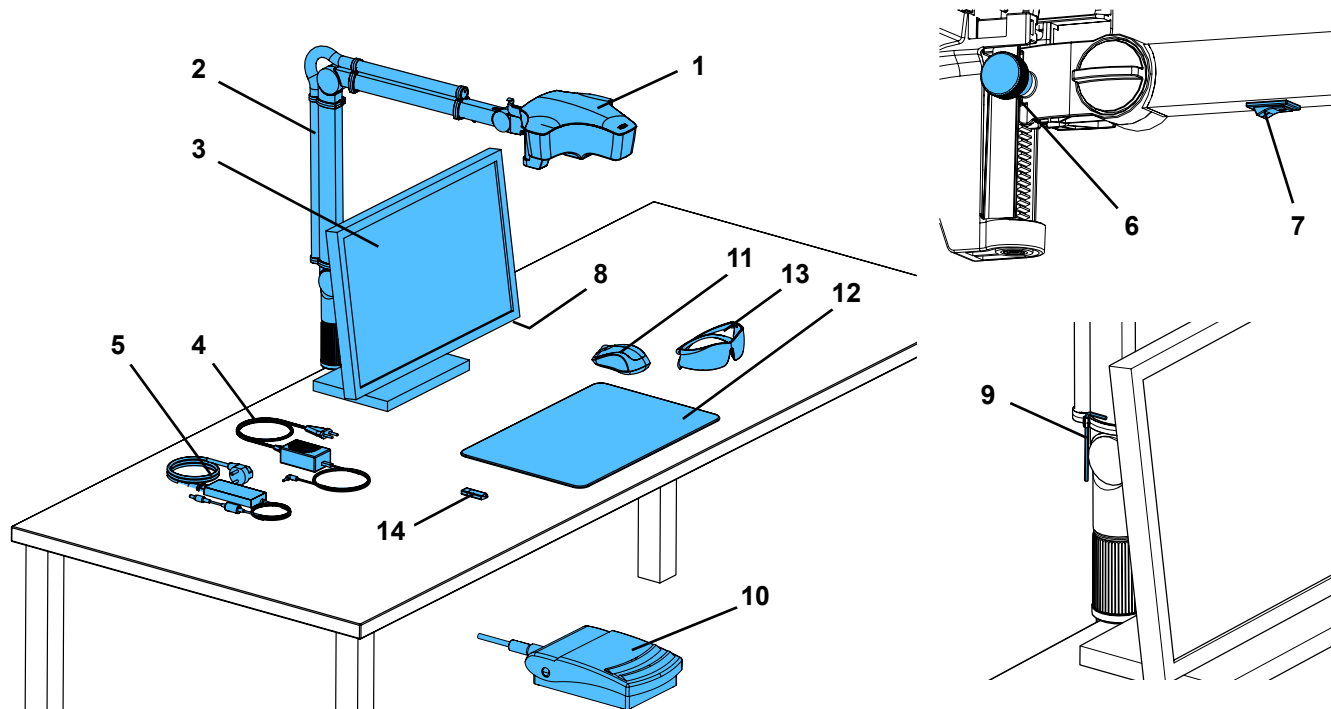

Fig. 1
- ⇒ Place the desk pad (12, Fig. 1) on the work table.
- ⇒ Place the mouse (11, Fig. 1) next to the desk pad..
- ⇒ Place the foot switch (Fig. 1) under the table and insert the cable for the foot switch into the foot switch
- Fasten the screw at the head (31).
- Middle clamping screw (32).
- Clamp screw on base part (33).
- Clamping screw (34) with the included tool (9, Fig. 1).
- Clamping screw (35) with the included tool (9, Fig. 1).